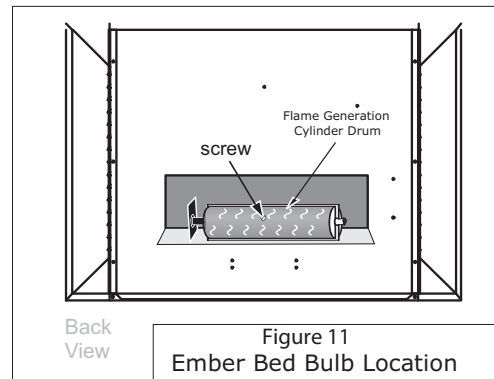

Figure 11
2. Locate the flame generation cylinder drum. It is attached to the inside of the back plate. They are 2 matte black sheet metal pieces with holes in them, either of which can be removed from the unit (Figure 11)
3. Remove the screw as shown in Figure 11 that is used to secure the flame generation cylinder drum.